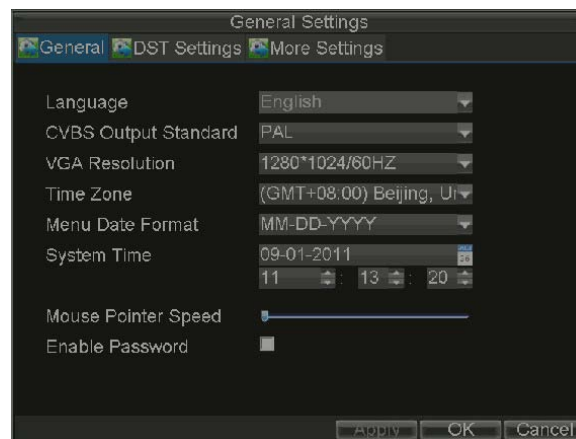

Figure 1. General Settings Menu
1. Click Menu > Settings > General to enter the General Settings menu, shown in Figure 1.